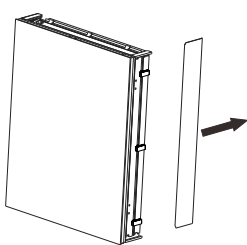

Fig.8
- 1.1 remove top and bottom block, and then remove the left and right side panel, see (Fig.8).